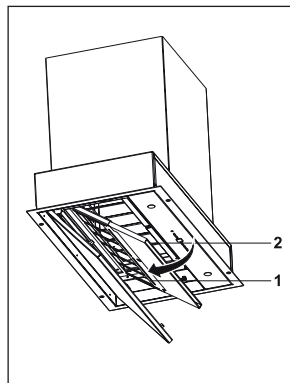

Fig. 9
5. Open the carbon filter cover downwards (Fig. 9) Pull and remove the carbon filter (Fig. 9).